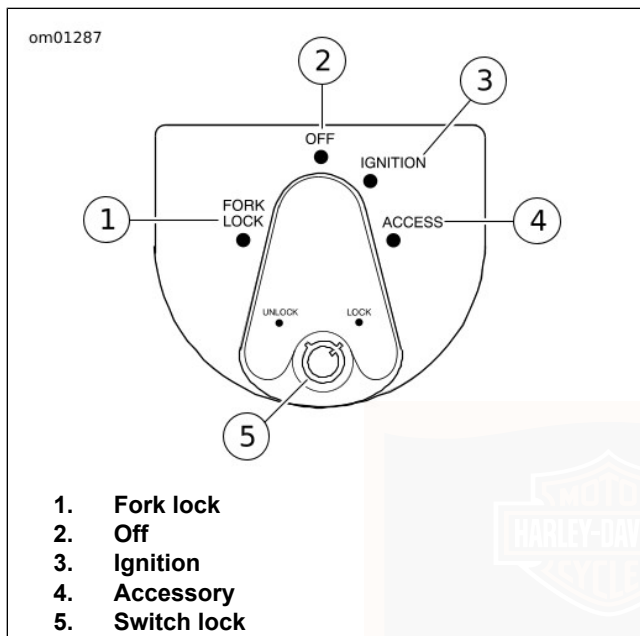

Figure 3. Ignition/Headlamp Key Switch: Tri Glide Models
See Figure 3. The ignition/headlamp key switch controls electrical functions of the motorcycle.
See Figure 3. Using the fork lock immediately after parking your motorcycle will discourage unauthorized use or theft when parking your motorcycle. The fork lock is integrated into the ignition switch.
2. See Figure 3. Turn switch knob to FORK LOCK and push knob down.
2. See Figure 3. Turn ignition/headlamp key switch to IGNITION and push the START switch to operate starter motor.
2. See Figure 3. Turn the ignition key to the OFF position to turn the ignition power completely OFF.